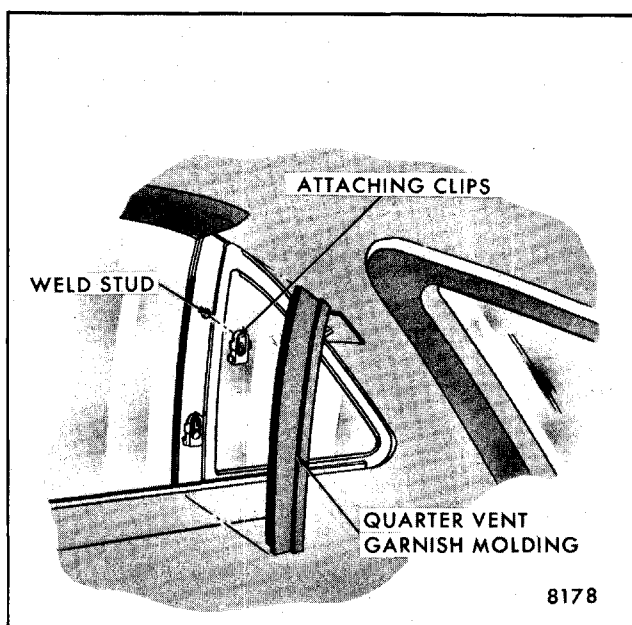

Fig. 6-25-Quarter Vent Division Channel Garnish Molding "A-35" Styles
1. Remove molding by inserting a screwdriver or similar tool at lower end of molding and prying outboard (Fig. 6-25).